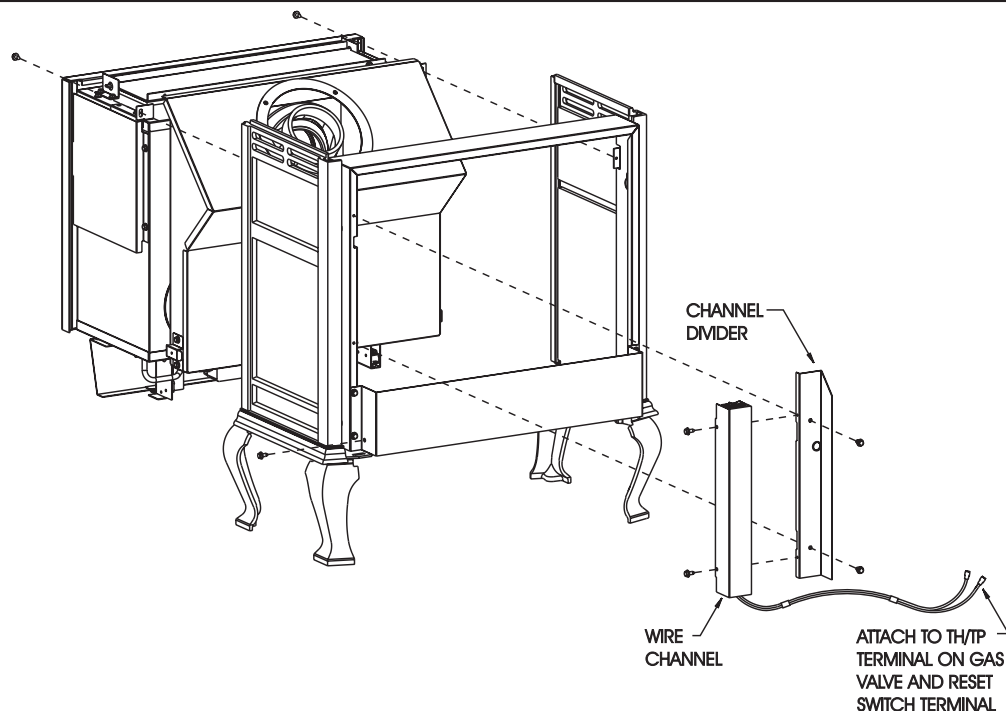

Figure 13
- F. Attaching firebox to rear cover (Figure 13).
15. Refer to Figure 13, align (2) slotted clearance holes on upper mounting brackets with (2) screw holes on rear cover. Align (2) slotted clearance holes on casing support with (2) screw holes at bottom of air drop assembly. Attach firebox to rear cover and casing support with (4) 10 x 1/2" screws.